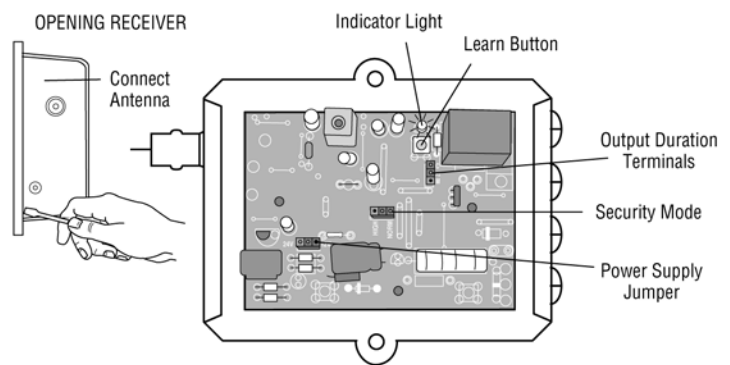

FIGURE 7
1. Pry open the front panel of receiver case with a coin or a screwdriver. Re-connect power to opener *Figure 7*.